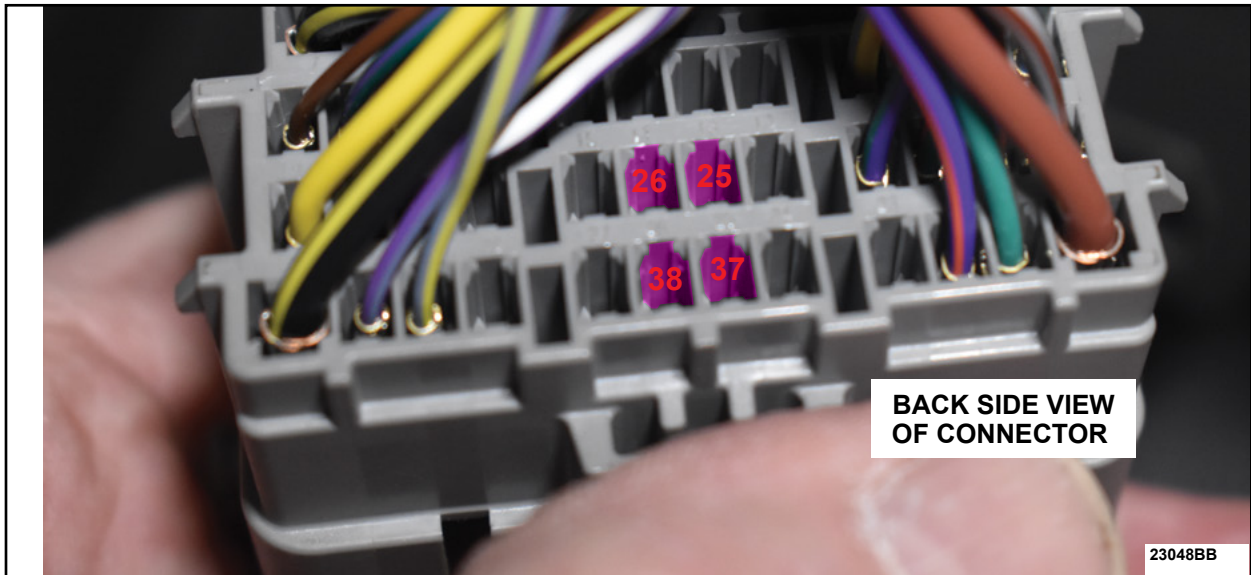

FIGURE 3
6. Open up the portion of the harness where the tape was cut. Locate the four (4) wires coming from terminal cavities 25, 26, 37 and 38. See Figures 3 and 6.